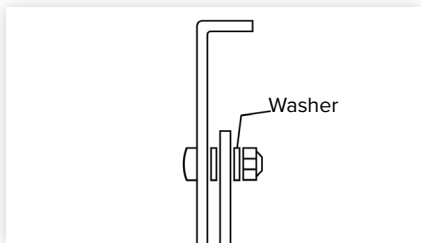

figure 7
- c) Fold out the arm with the bolt, washers and nut attached. Remove the nut and feed the bolt through the 8mm hole in the end of the arm with the wire attached making sure one washer is between the arms and the other washer is next to the nylok nut, as in figure 7. There is now some tension on the spring.